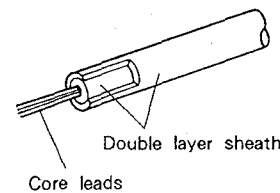

Fig. 10-2 Anode cable structure
①
②
- The anode cable structure is outlined in Fig. 10-2. Note that the sheath consists of two layers.